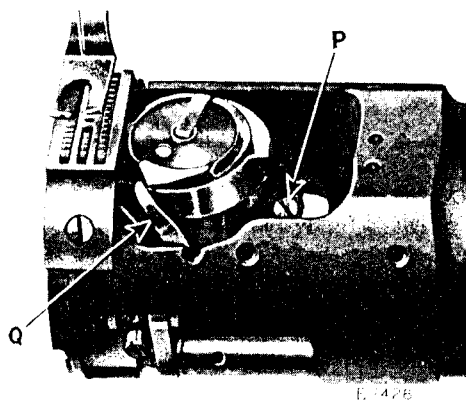

Fig. 20. Adjustment of Mechanical Opener
The bobbin case lever (Q, Fig. 20) at the left of the sewing hook, actuated by the eccentric on the hook washer, strikes the
The bobbin case lever (Q) may be adjusted by loosening the bobbin case lever fulcrum screw (P, Fig. 20) and moving the fulcrum forward or backward.